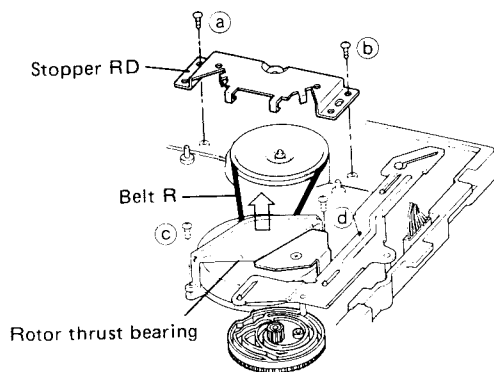

Fig. 3-9
- 1) Remove the two screws (a and b) retaining the stopper-RD as shown in Fig. 3-9.
- 2) Remove the two rotor thrust bearing retaining screws (c and d) as shown in Fig. 3-9.
- 3) Lift the rotor thrust bearing a little and remove the belt-R as shown in Fig. 3-9.